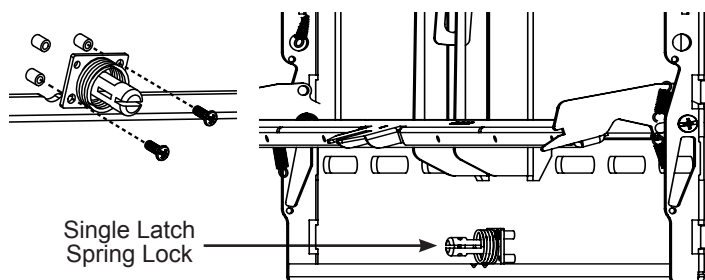

Figure 1
The PFW 6880 has a set of post-installation adjustments on each mounting bracket (Figure 1).
- 1) Push evenly in the front of the PFW 6880 to release the single latch spring lock(Figure 1).